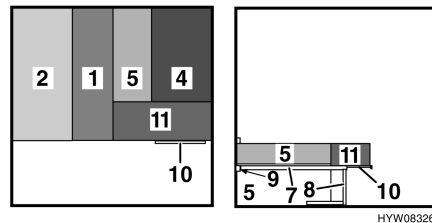

Fig. 34 After conversion
- Place the back cushions (Fig. 34,1 and 5) between the two seat cushions (Fig. 34,2 and 4). Pay attention to the different lengths.
- Place the additional cushion (Fig. 34,11) ahead of the short back cushion (Fig. 34,5) and the short seat cushion (Fig. 34,4).